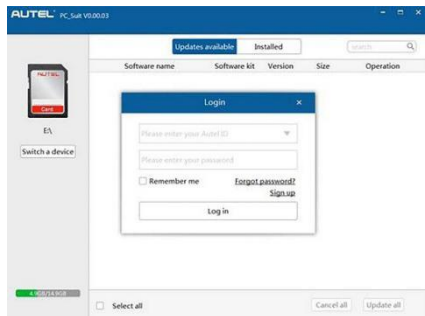

Figure 7.2
- 1) Run the **Maxi PC Suite**. Wait for the Log In window to pop up (Figure 7.2).